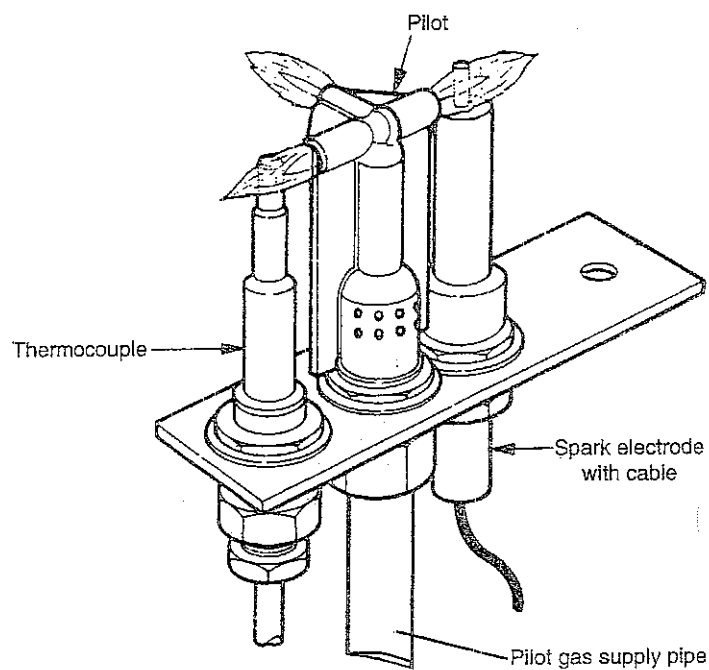

Fig. 34
- f) Pull pilot assembly downwards (fig. 34)
- h) Unscrew the thermocouple from the pilot assembly (fig. 34).